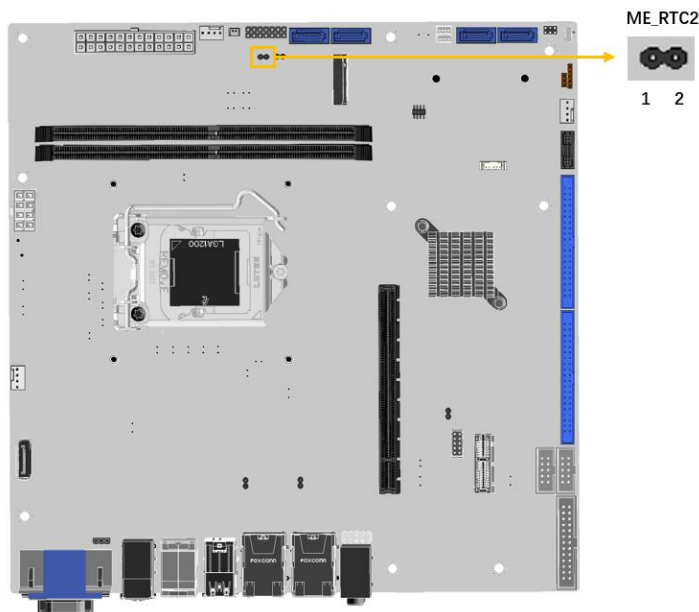

Figure 3-2: Clear CMOS Jumper Location
- CN Location:** See **Figure 3-2**